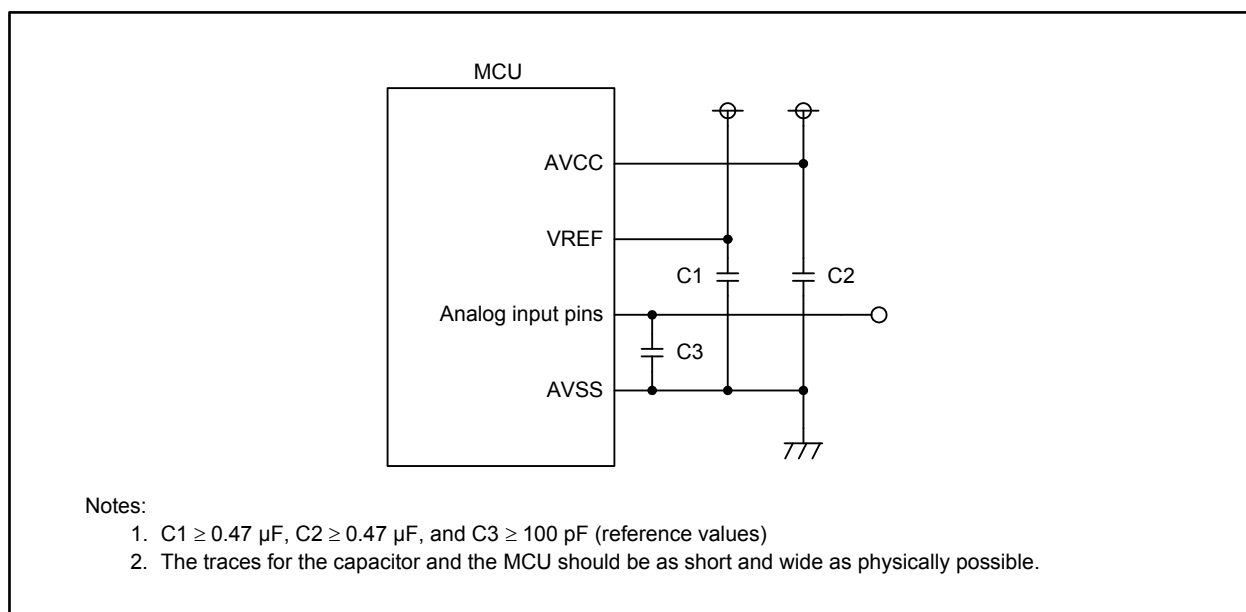

Figure 30.1 Pin Configuration for the A/D Converter
- Three capacitors should be placed between the AVSS pin and pins such as AVCC, VREF, and analog inputs (AN_0 to AN_7, AN0_0 to AN0_7, and AN2_0 to AN2_7) to avoid erroneous operations caused by noise or latchup, and to reduce conversion errors. Figure 30.1 shows an example of pin configuration for A/D converter.